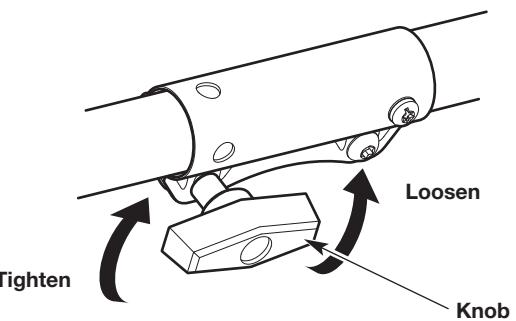

Fig. 1
3. Turn the knob counterclockwise to loosen the coupler (Fig. 1).
6. Turn the knob clockwise to tighten the coupler (Fig. 1).